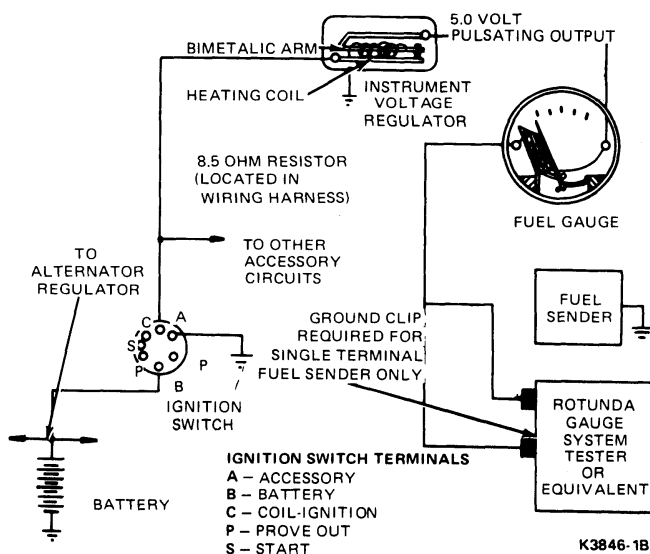

FIG. 2 Fuel Indicating System Test
1. Disconnect connector from fuel sender and hook onto the matching terminals on the tester, (Fig. 2).